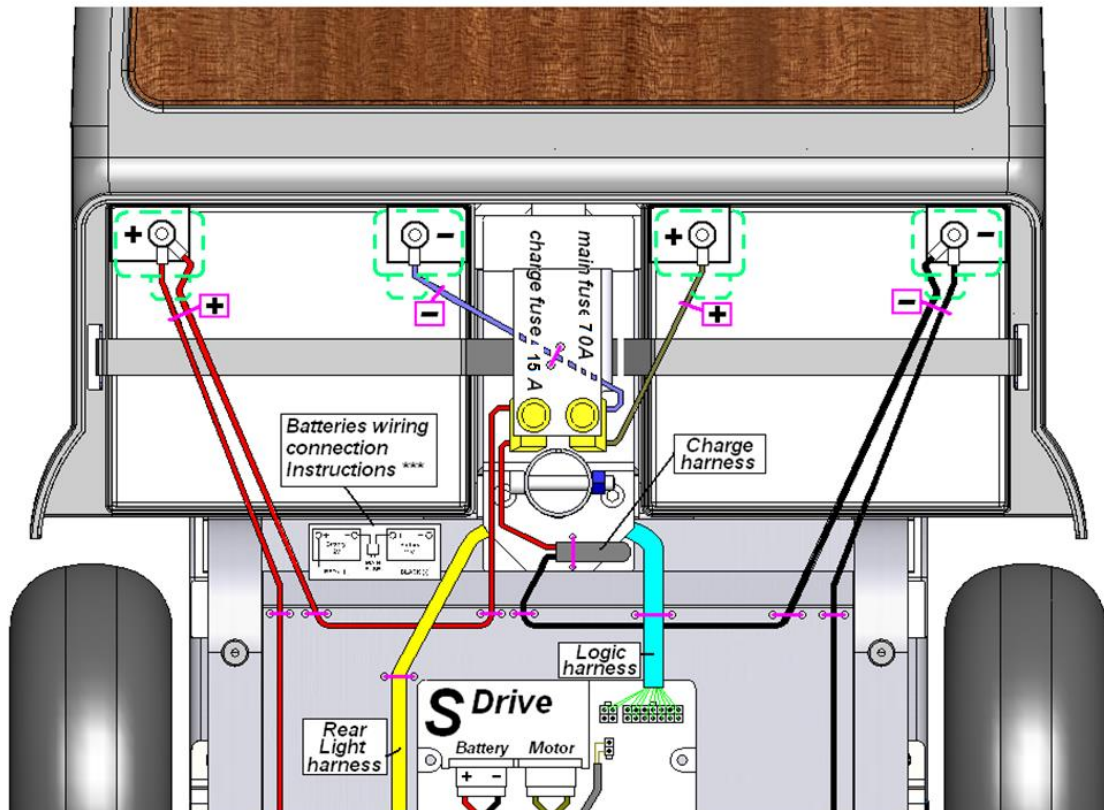

Figure 11
2. The numbers in parentheses refer to the parts illustrated in figure 11.
Replace batteries	<p>Note! Batteries must be replaced by trained professionals only.</p> <p>Warning! Batteries contain high energy and can spark, resulting in a possible fire hazard.</p> <p>Warning! Working with batteries can cause damage and Injury if not done properly.</p> <p>In this procedure, refer to Figure 12.</p> <ol style="list-style-type: none"> 1. Remove the terminal insulating cap from one battery terminal. 2. Using a 10/13 mm key, unscrew the wiring from the terminal. Take care not to let the key touch any other terminal or metal part, as this could cause damage or injury. 3. Repeat steps 1 and 2 for all the other terminals. 4. Remove the old batteries and install the new ones. 5. Connect the wires of the new batteries as shown in Figure 11 (also shown on the label located near the batteries). 6. Screw down the terminals securely, and replace the insulating caps.